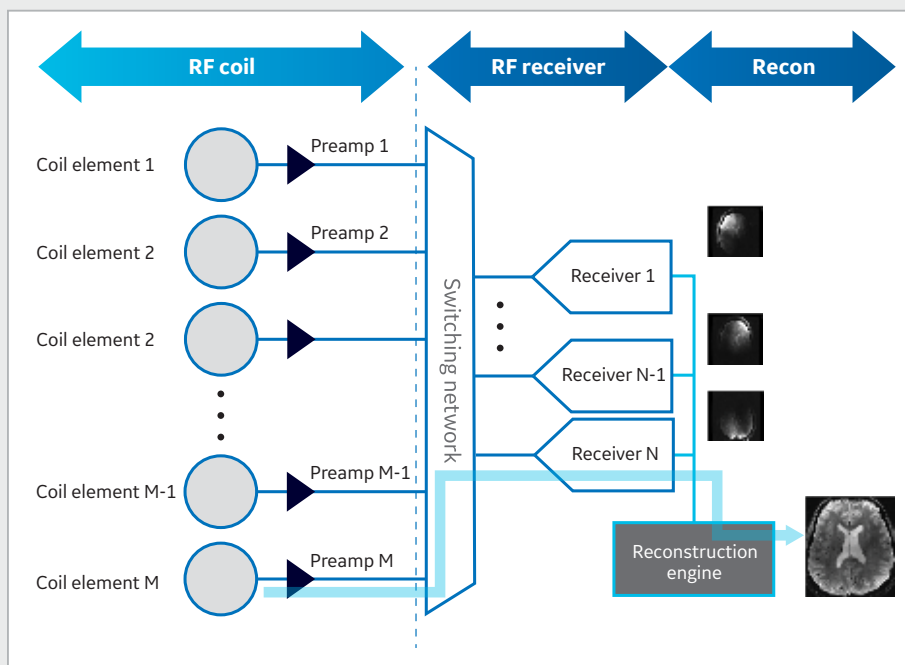

Figure 2. M x N receive chain architecture.
Most conventional MR systems utilize a limited receive chain design to minimize the cost of digital receivers/ADCs, which limits capability. By definition, the number of connected coil elements (M) is much larger than the number of elements that can be digitized at one time by a receiver/ADC (N). The signal from the coil elements (M) is routed to the receivers (N) with the use of a switching network (Figure 2). It is common for such systems to be identified as M x N receive systems, i.e., 204 x 48. Based on this architecture, the number of MR channels will be limited by the number of available receivers/ADCs, N. Continuing this example, where M = 204 and N = 48, regardless of how many coil elements are connected to the system, the number of MR channels cannot exceed 48. In this design, it is the number of receivers/ADCs in the receive chain architecture that limits the number of MR channels.